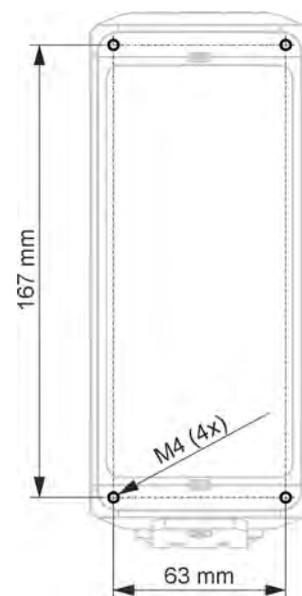

Fig. 23-1 Fastening drilling patterns
- Enclosure rear panel mounted on a mounting plate (3 mm thick); mounting plate screwed to a flat surface (wall or similar) (drilling pattern see Fig. 23-1 Pos. 1)
- Directly screwed to a flat surface (wall or similar) with the rear panel of the enclosure (drilling pattern see Fig. 23-1 Pos. 2)
3. For wall mounting, transfer the respective drilling pattern (see Fig. 23-1) to the wall and drill the holes.